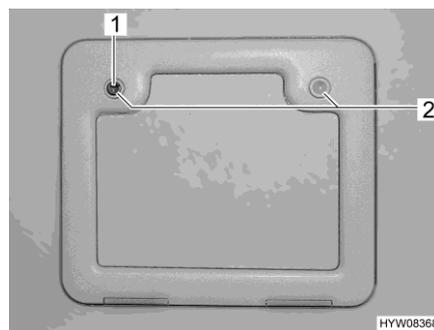

Fig. 17 External flap Thetford cassette
- Insert key into locking cylinder (Fig. 17,1) of the push-button lock and turn a quarter turn.
- Press both push-button locks (Fig. 17,2) simultaneously with your thumb and open the external flap.
- Insert key into locking cylinder (Fig. 17,1) and turn a quarter turn.